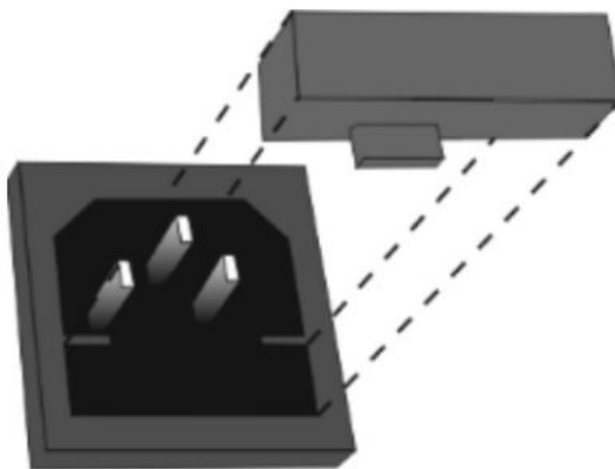

Figure 7. Fuse replacement
5. Fuse replacement. Disconnect from the electric circuit. Remove the power plug from the rear side of the unit (fig. 1/2). Pull out the fuse holder by applying leverage in recess (figure 7). Remove the fuse from the holder. Check and replace with the correct fuse if necessary, M 3.15 A for 230 V and M 8.0 A for 120 V (type M – time lag: Medium).